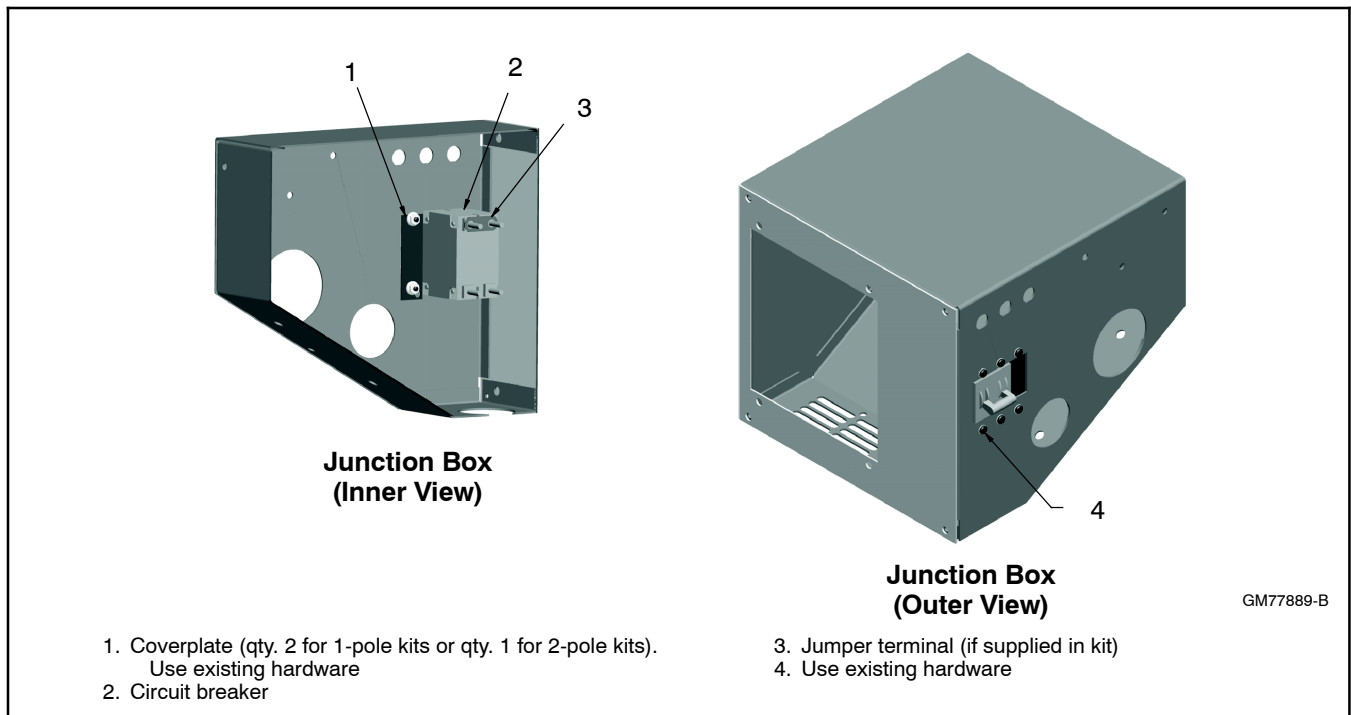

Figure 6-4 Circuit Breaker Mounting
5. Install the circuit breaker from the inside of the cutout panel and mount it using existing screws removed in step 4. Position the circuit breaker with the ON in the normal upright position or to the left side. Cover the cutout opening, if applicable, with the circuit breaker cover plate. Use existing screws to mount the cover plate. See Figure 6-4.